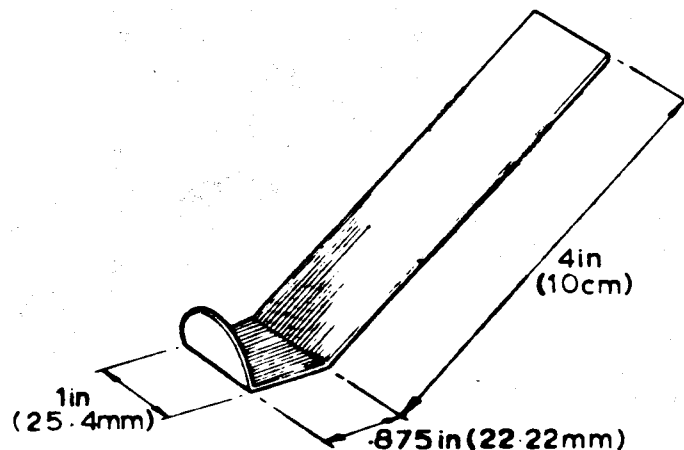

Fig.35 - Tool for Removing Bezel
1. Insert the tool (Fig.35) between the front bezel and the front rim, sliding round to bottom of the rim. Give a sharp tug in an upward and forward direction with the tool, whereupon the front bezel will be pulled clear of the front rim.